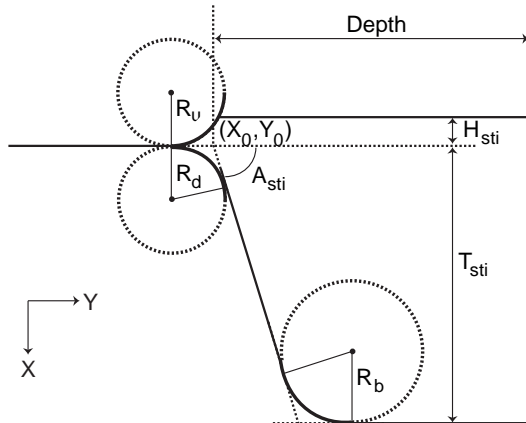

Figure 123 Parameters for generating STI-shaped polyhedron
- For other parameters, see Figure 123.
- For other parameters, see Figure 123 on page 736.